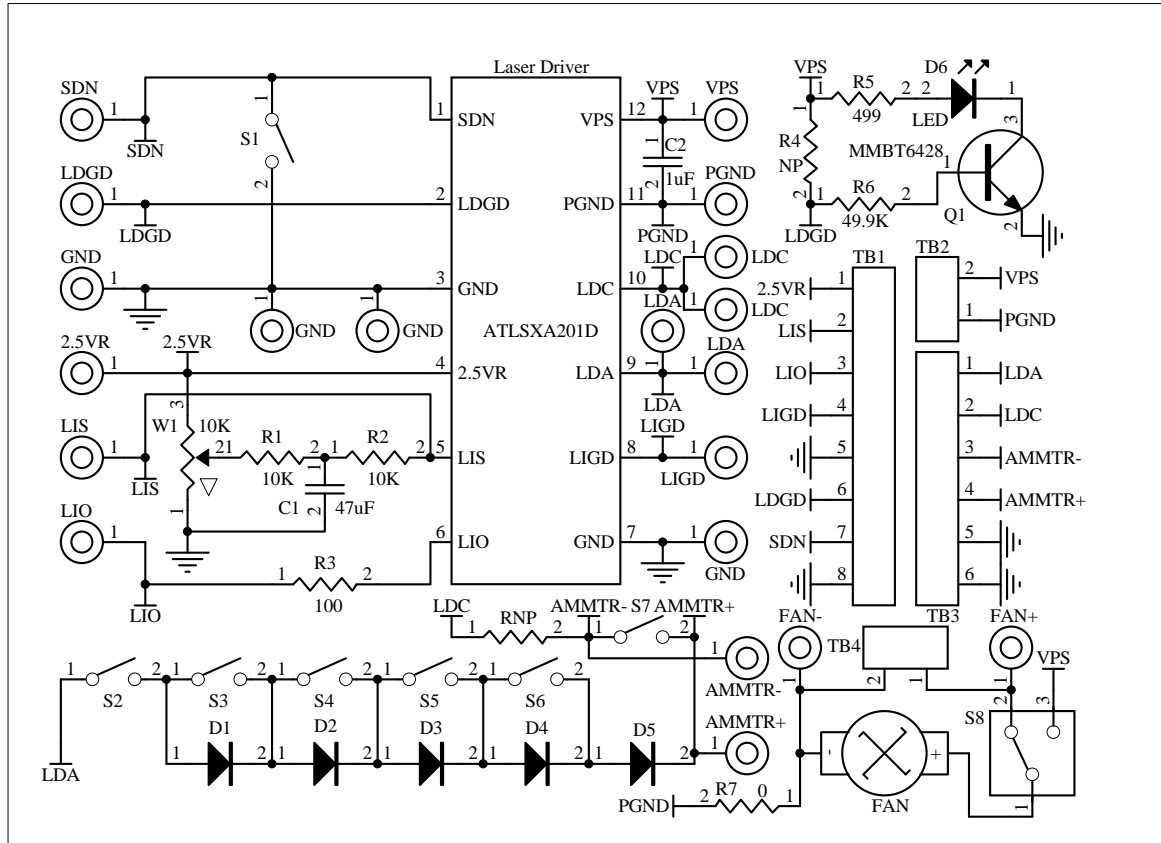

Figure 7. Schematic of Laser Driver ATLS201D Evaluation Board Rev. 1.0
The schematic is shown in Figure 7 below.
- B. Turn the switch S7 to its lower off position, thus the output current can go through the ammeter and be measured by reading Ammeter's value.; when the switch S7 is placed in the upper on position, the ampere meter is shorted, thus, it does not measure the output current, see the schematic shown in Figure 7.
6. Test the driver with the "dummy laser". The 5 diodes on the board, D1 to D5, can form a "dummy laser" to act as the laser diode in place of a real laser so that in case there is a problem in the circuit, the expensive laser would not be damaged, see schematic in Figure 7. Turn the switch S2 to the on position (upper), to connect the "dummy laser" to the driver. Turning switches S3, S4, S5 and S6, up and down will increase (turning down the switches) and decrease (turning up the switches) the forward voltage of the "dummy laser" which can be measured by a volt meter between the LDA and the ground. Each diode can increase or decrease the output forward voltage by about 0.7V when the output current is 4A. **Warning: when output 4A current, the diodes may get very hot, don't touch them with your fingers.** The switch bank and their corresponding diodes are shown in the table below. The diode D5 is always activated so that the total forward voltage range is from 0.7V to  $0.7V + 0.7 \times 4 = 3.5V$ . Please be aware of this fact: when the output voltage is low by shorting circuit all the diodes, the driver will consume a lot of power and may get too hot that the internal temperature protection circuit will shut off the driver automatically. When this happens, wait for a few seconds, let the driver cool down, the driver will restart by itself again after the temperature is lowered to certain level. This is the way to calculate the power consumption of the driver: